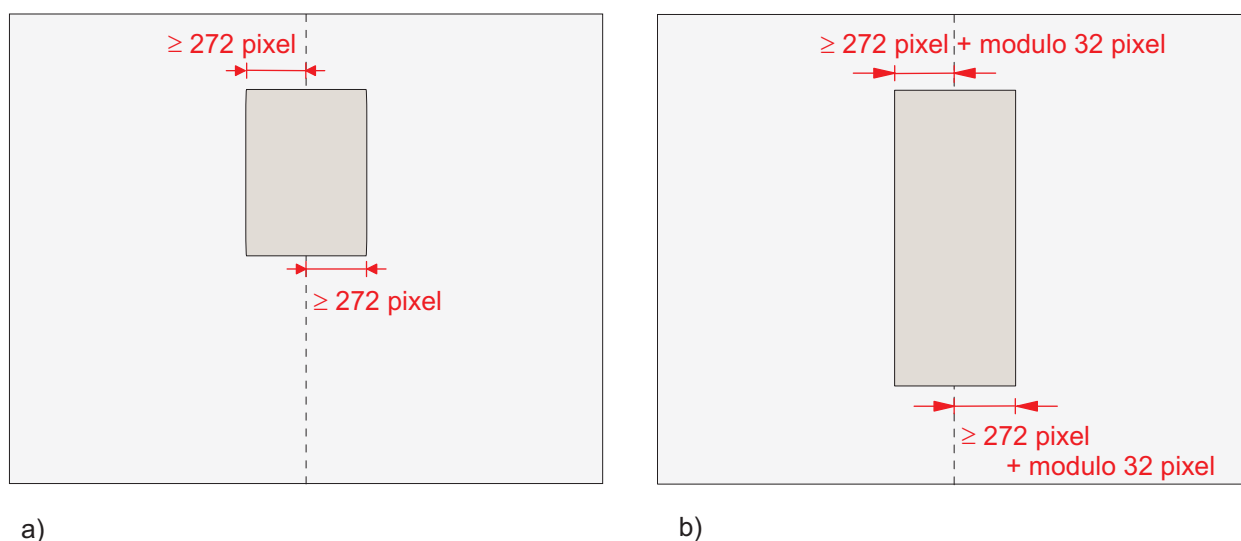

Figure 4.14: Possible configuration of the region of interest with MV1-D1312-3D02-160-G2 CMOS camera
Some applications do not need full image resolution (1312 x 1024 pixels). By reducing the image size to a certain region of interest (ROI), the frame rate can be increased. A region of interest can be almost any rectangular window and is specified by its position within the full frame and its width (W) and height (H). Fig. 4.14 shows possible configurations for the region of interest, and Table 4.1 presents numerical examples of how the frame rate can be increased by reducing the ROI.
The minimum width must be positioned symmetrically towards the vertical center line of the sensor as shown in Fig. 4.14). A list of possible ROI settings is given in Table 4.3.